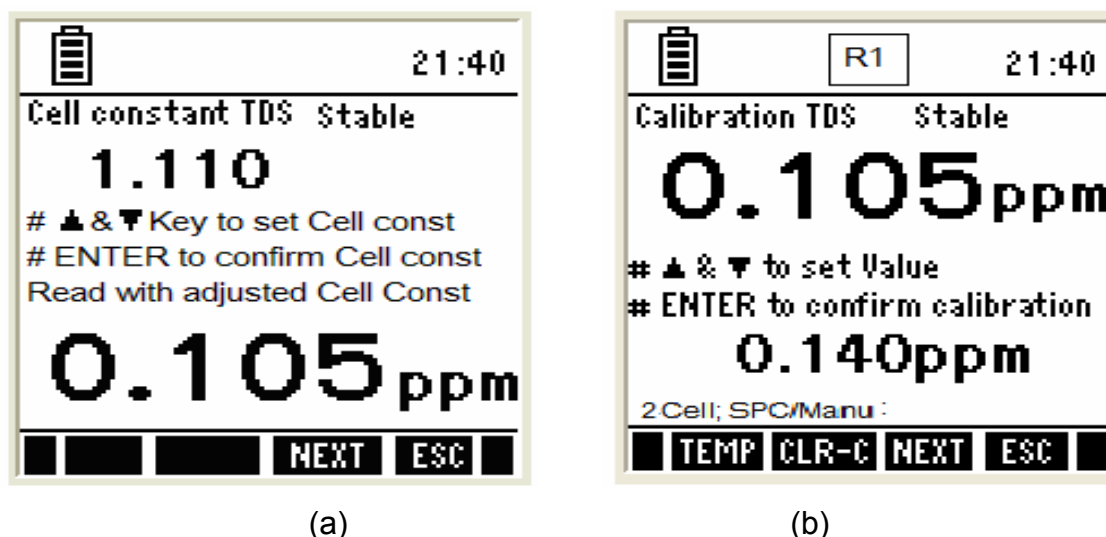

Figure 41 : TDS Cell constant adjustment & TDS calibration screen
3. The meter shows 'Calibration-Rinse Electrode' screen [Figure 33-(a)] few seconds and then shows the cell constant adjustment screen for TDS [Figure 41(a)].